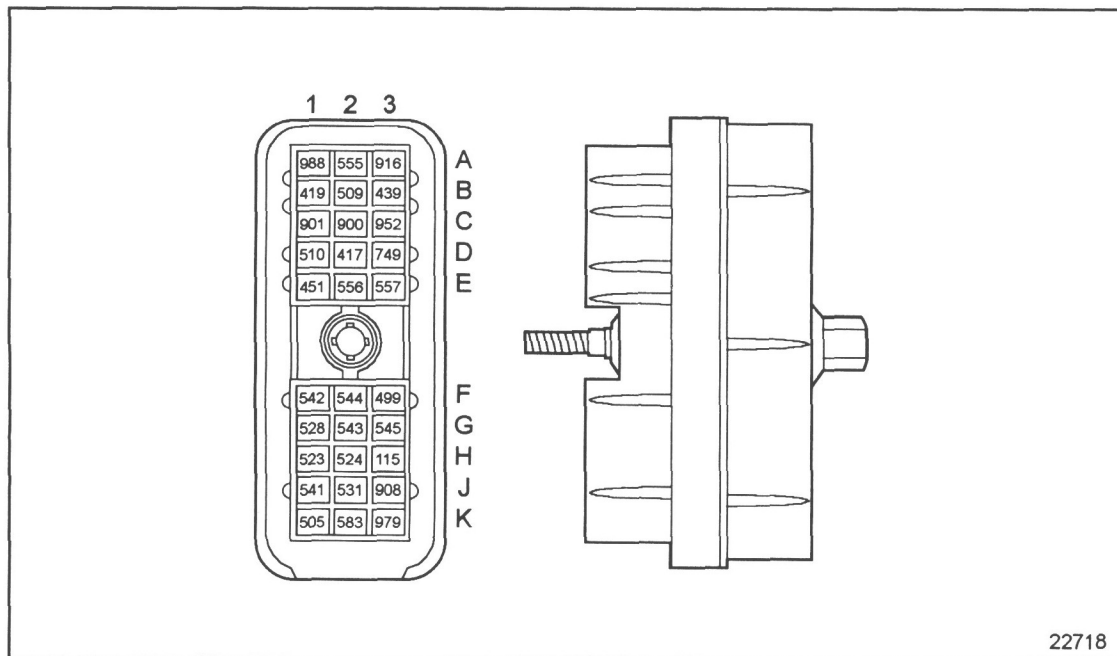

Figure 54-1 ECM Vehicle Interface Harness Connector
2. Measure resistance of VSS circuit across vehicle harness connector pins, E2 to E3. See Figure 54-1.
2. Measure resistance between vehicle harness connector terminals E2 and E3. See Figure 54-1.
1. Measure resistance of VSS across vehicle speed sensor connector pins. See Figure 54-1.